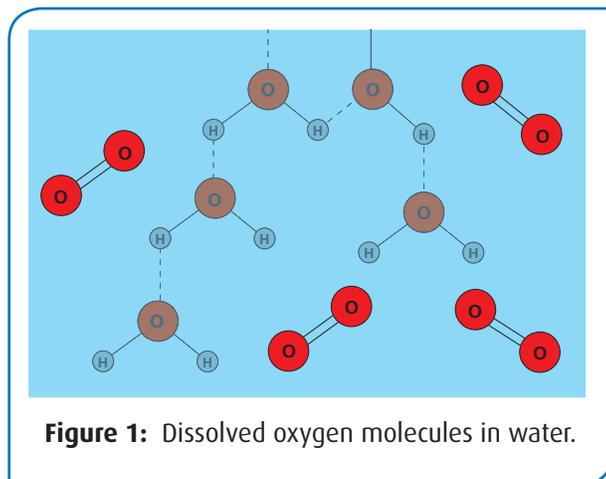

Figure 1: Dissolved oxygen molecules in water.
Although water contains an oxygen atom, it is inaccessible to aquatic life — aquatic organisms can only use molecular oxygen dissolved in the water (Figure 1). Most dissolved molecular oxygen (DO) enters the aquatic system through two processes: atmospheric O_2 diffuses into the water at the surface, and aquatic plants and phytoplankton release O_2 as a by-product of photosynthesis. DO is lost from water when it is consumed during respiration or decomposition. In addition, chemical processes like nitrification and sulfide oxidation also consume small amounts of molecular oxygen. Finally, water can only hold small amounts of DO and additional molecules of oxygen will eventually diffuse back into the atmosphere. The maximum DO concentration that water can hold varies depending on several abiotic factors including temperature, atmospheric pressure, hydrostatic pressure, and salinity. At 20° C and at sea level the maximum amount of dissolved oxygen in fresh water is 9.03 mg/L.